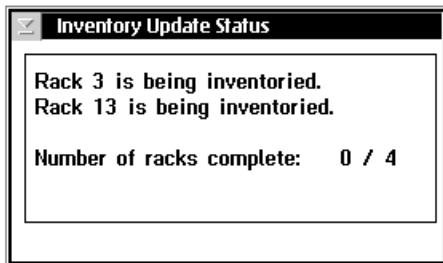

Figure 112. Inventory Update Status Box (Dual Active Accessor systems)
**Note:** If the Dual Active Accessors Feature is installed, information is displayed for both accessors. See Figure 112.